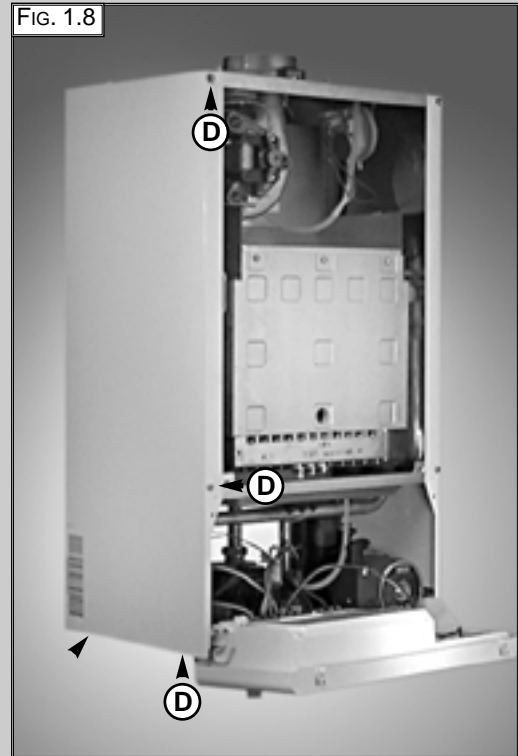

FIG. 1.8
1. Remove the four screws "D" for each side panel (FIG.1.8);